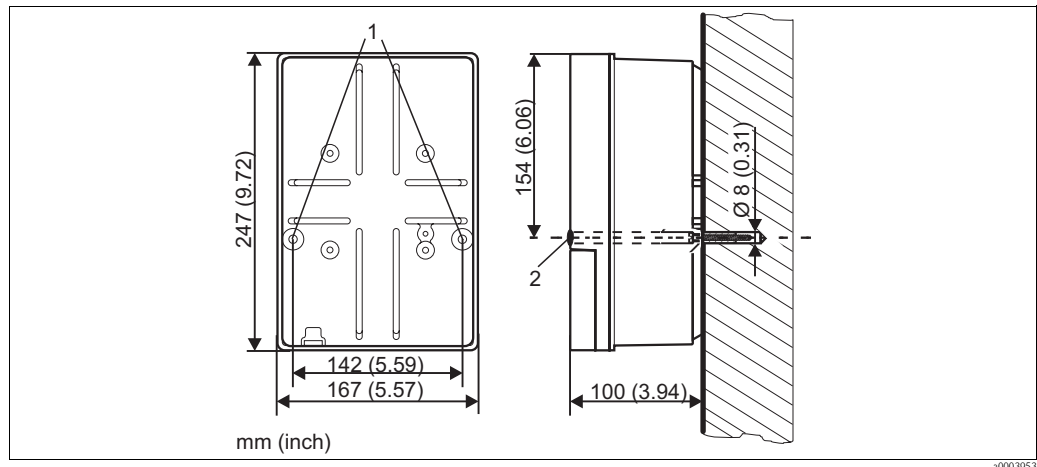

Fig. 10: Dimensions for wall mounting, securing screw: $\varnothing$ 6 mm (0.24"), wall plug: $\varnothing$ 8 mm (0.31")
1. Bore the holes as per Fig. 10.
2. Push the two securing screws from the front through the securing bores (item 1).
4. Cover the bores with the plastic caps (item 2).